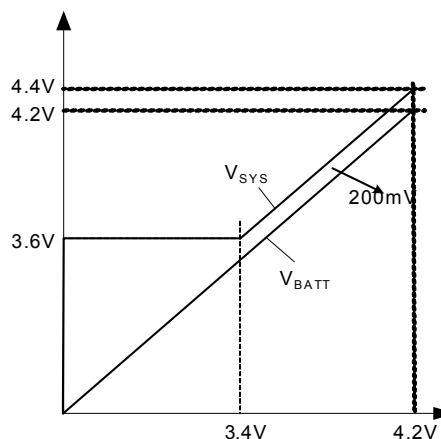

Figure 2 — SYS Regulation Output
- 2) If $\text{BATT} < 3.4\text{V}$, V_{SYS} is fixed at 3.6V to power the system immediately even when a drained battery is inserted to be charged. Figure 2 shows the relationship of V_{SYS} vs. V_{BATT} .
System voltage can also be regulated to any value between 3.6V to 4.4V by using a resistor divider on the SYSFB pin. This is shown as R6 and R7 in Figure 9. If the SYSFB is left floating, the system program is invalid, and V_{SYS} is regulated as Figure 2.